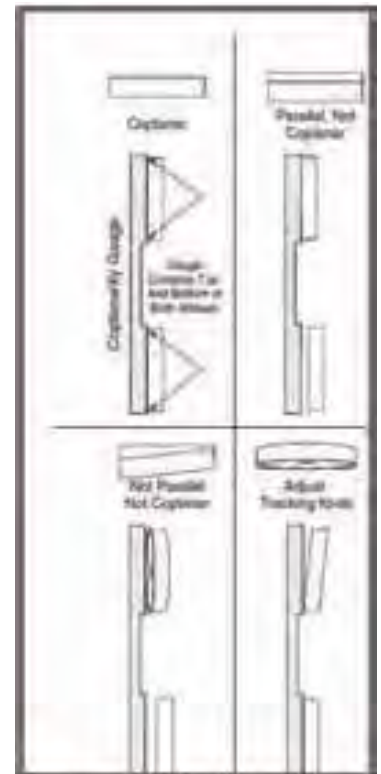

Figure 55. Coplanar diagram.
When wheels are aligned, or coplanar, the bandsaw cuts straighter, with much less vibration, heat, and blade wear because the blade is automatically balanced on the wheel. See Figure 55 to better understand coplanarity. If your bandsaw develops tracking problems that can't be fixed by adjusting the upper wheel tracking knobs, then check the wheel alignment before taking any other steps. Verifying Upper/Lower Wheels are Coplanar
2. With the blade on and properly tensioned, hold a straightedge or a self-made "coplanarity gauge" (Figure 55) close to the center of both wheels. Make sure the straightedge or gauge fully extends across the wheels as shown in Figure 55.